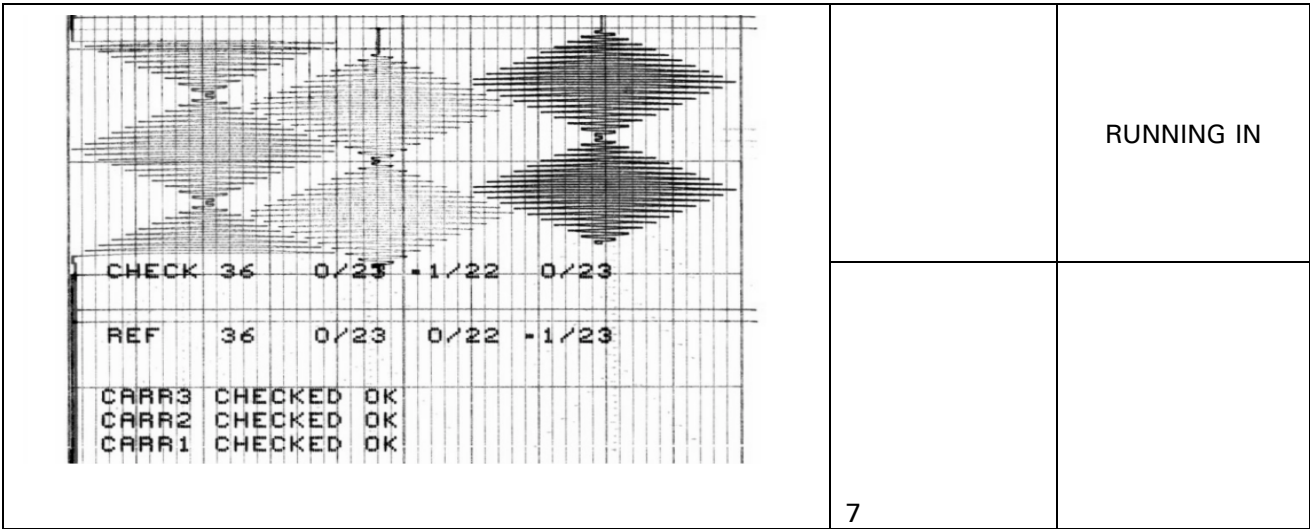

Figure 10-1
- ✓ For each channel, an adjustment check is executed at the end of the diagnostic. See figure 10-1 ref. 7.
10.2.1.2 *Running in pen recorder (See fig. 10-1)*